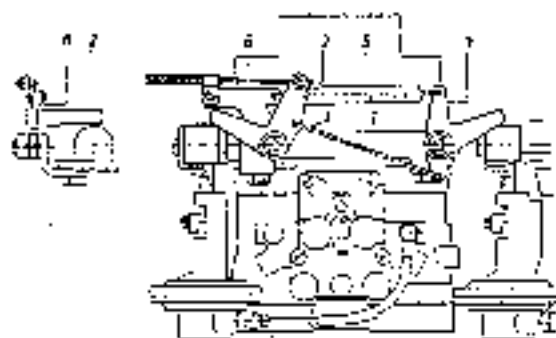

Fig. 30-6/4
8. Connect both electric cables to the connections (4) on the control and push the choke control from the front into the mounting plate (Fig. 30-6/1).
9. Screw the guide screw (5) into the choke control and tighten by means of Hook Wrench 136 589 02 05. Install the felt ring (6) and screw in the choke control knob (7) (see Fig. 30-6/1).
10. Insert the choke control into the fixing eye on the intake manifold and clamp the coil spring to the eye by means of the clamping screw (2) (see Fig. 30-6/3).